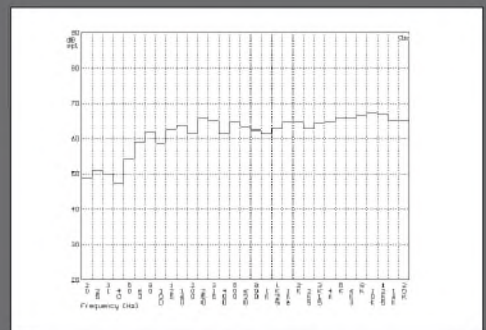

FIGURE 10: VR-920 center-channel RTA response.
*Figure 10* is a plot of the VR-920 1/3 octave pink-noise response, and is fairly representative of the low-frequency extension you will get in a typical room. Relative to 1kHz the -3dB low-frequency point lies between 63 and 50Hz 1/3 octave bands.